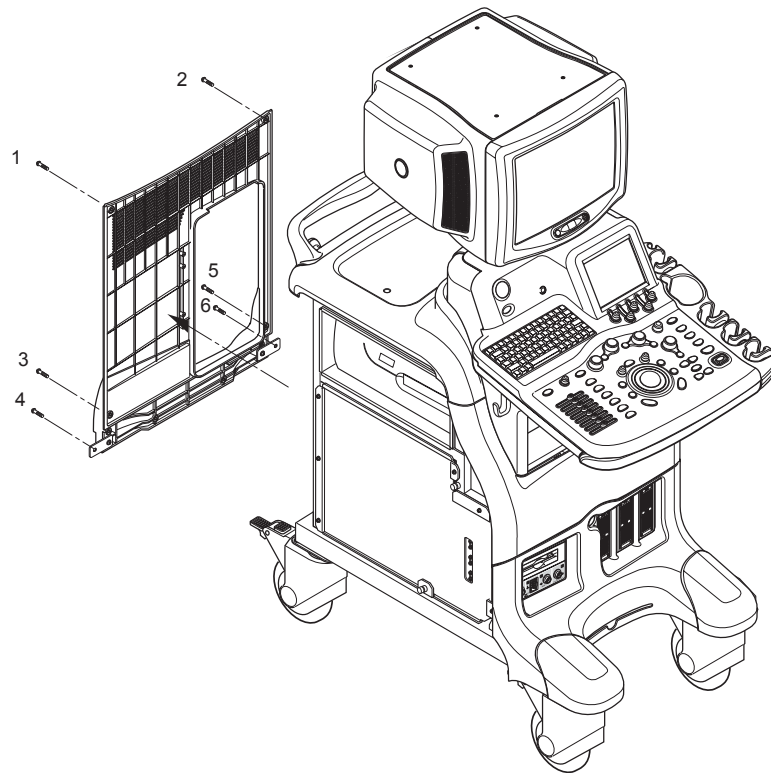

Figure 8-50 Removing the rear cover
- 4.) Remove the Rear Cover. Refer to section Figure 8-50 on page 35.